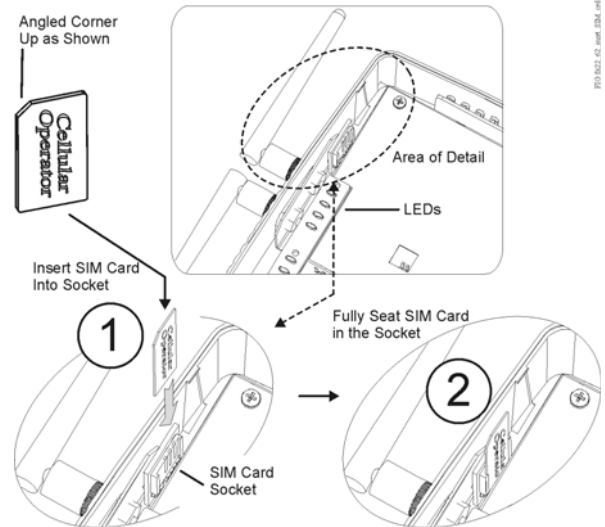
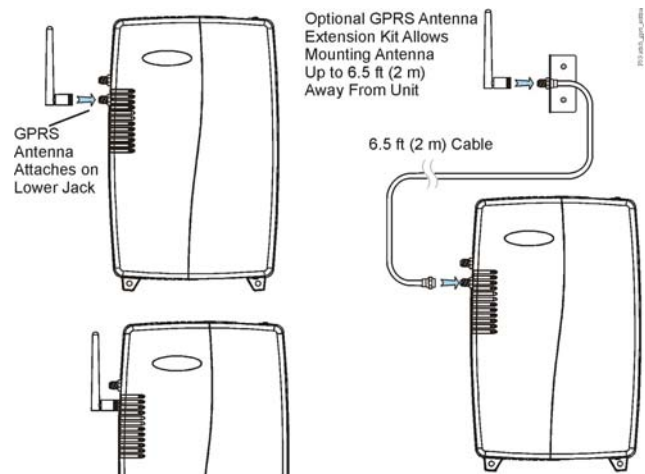

Figure 8: Insert SIM Card
Figure 9: Attach GPRS Antenna
LP-FXGPRSE-0	6.56 ft (2 m) SMA-type coax extension cable, with mounting bracket. See Figure 8 and Figure 9.
2. Locate the SIM card socket near the upper left corner of the supervisory controller, above the LEDs (Figure 8).
3. Orient the SIM card with its angled corner up, foil connectors facing the socket, writing side towards the metal shield (as shown in Figure 8), and slide the card down into the socket connector.
5. Insert the GPRS antenna into the SMA coax jack on the left side (lower jack) and finger tighten the knurled nut (Figure 9).